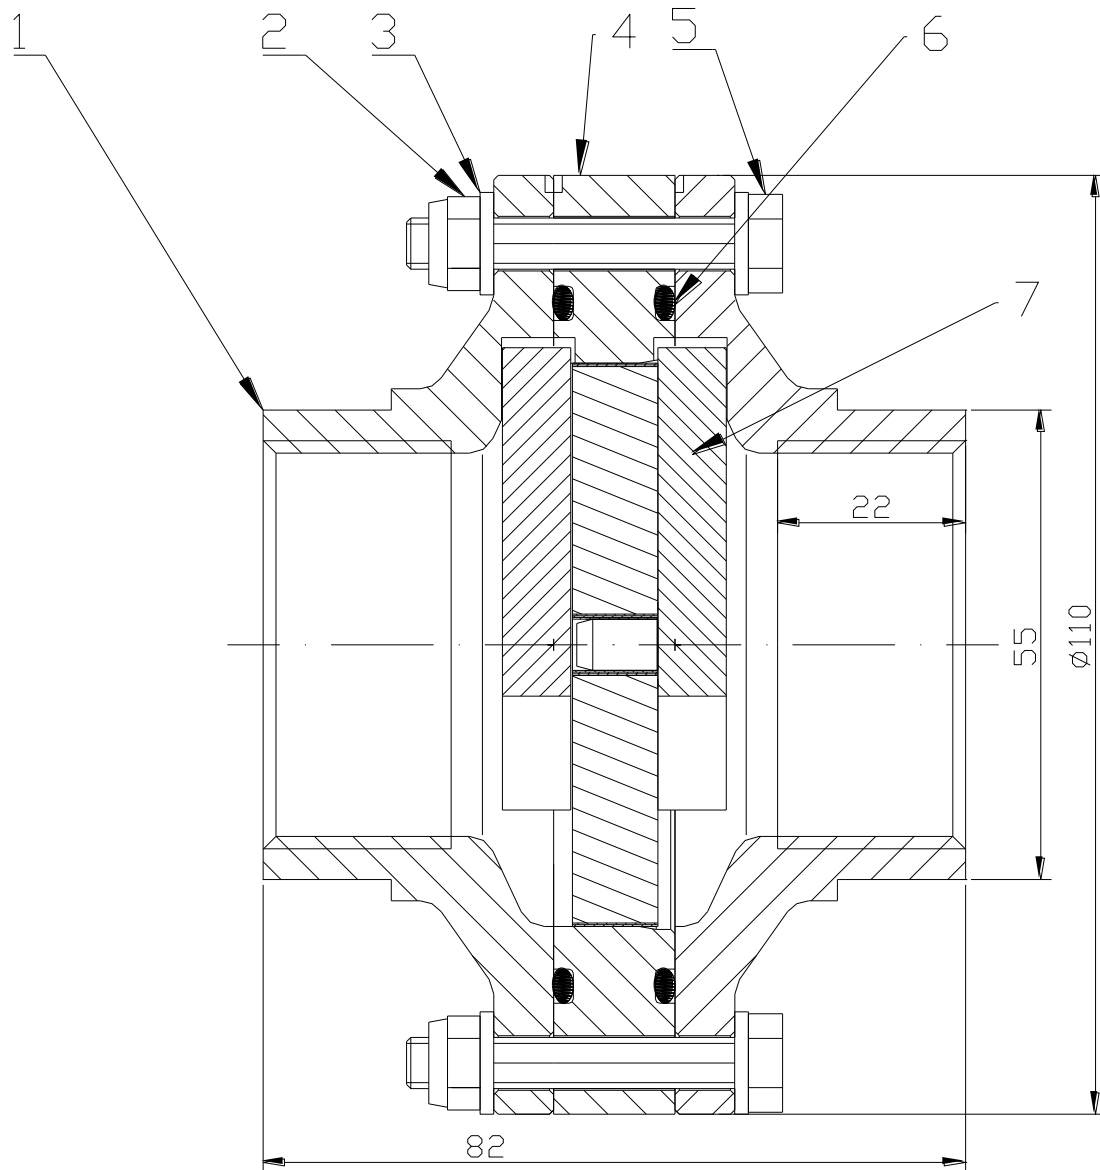

Fig. 1
(See also figure 1)
(See figure 1)
- Spare part no. (Please refer to **fig. 1** for items)